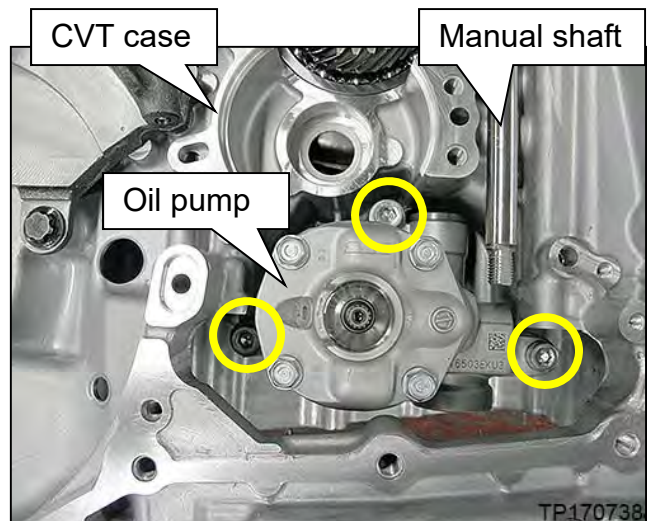

Figure 160
- Leave the sub-assembly side cover facing down as shown in Figure 160.